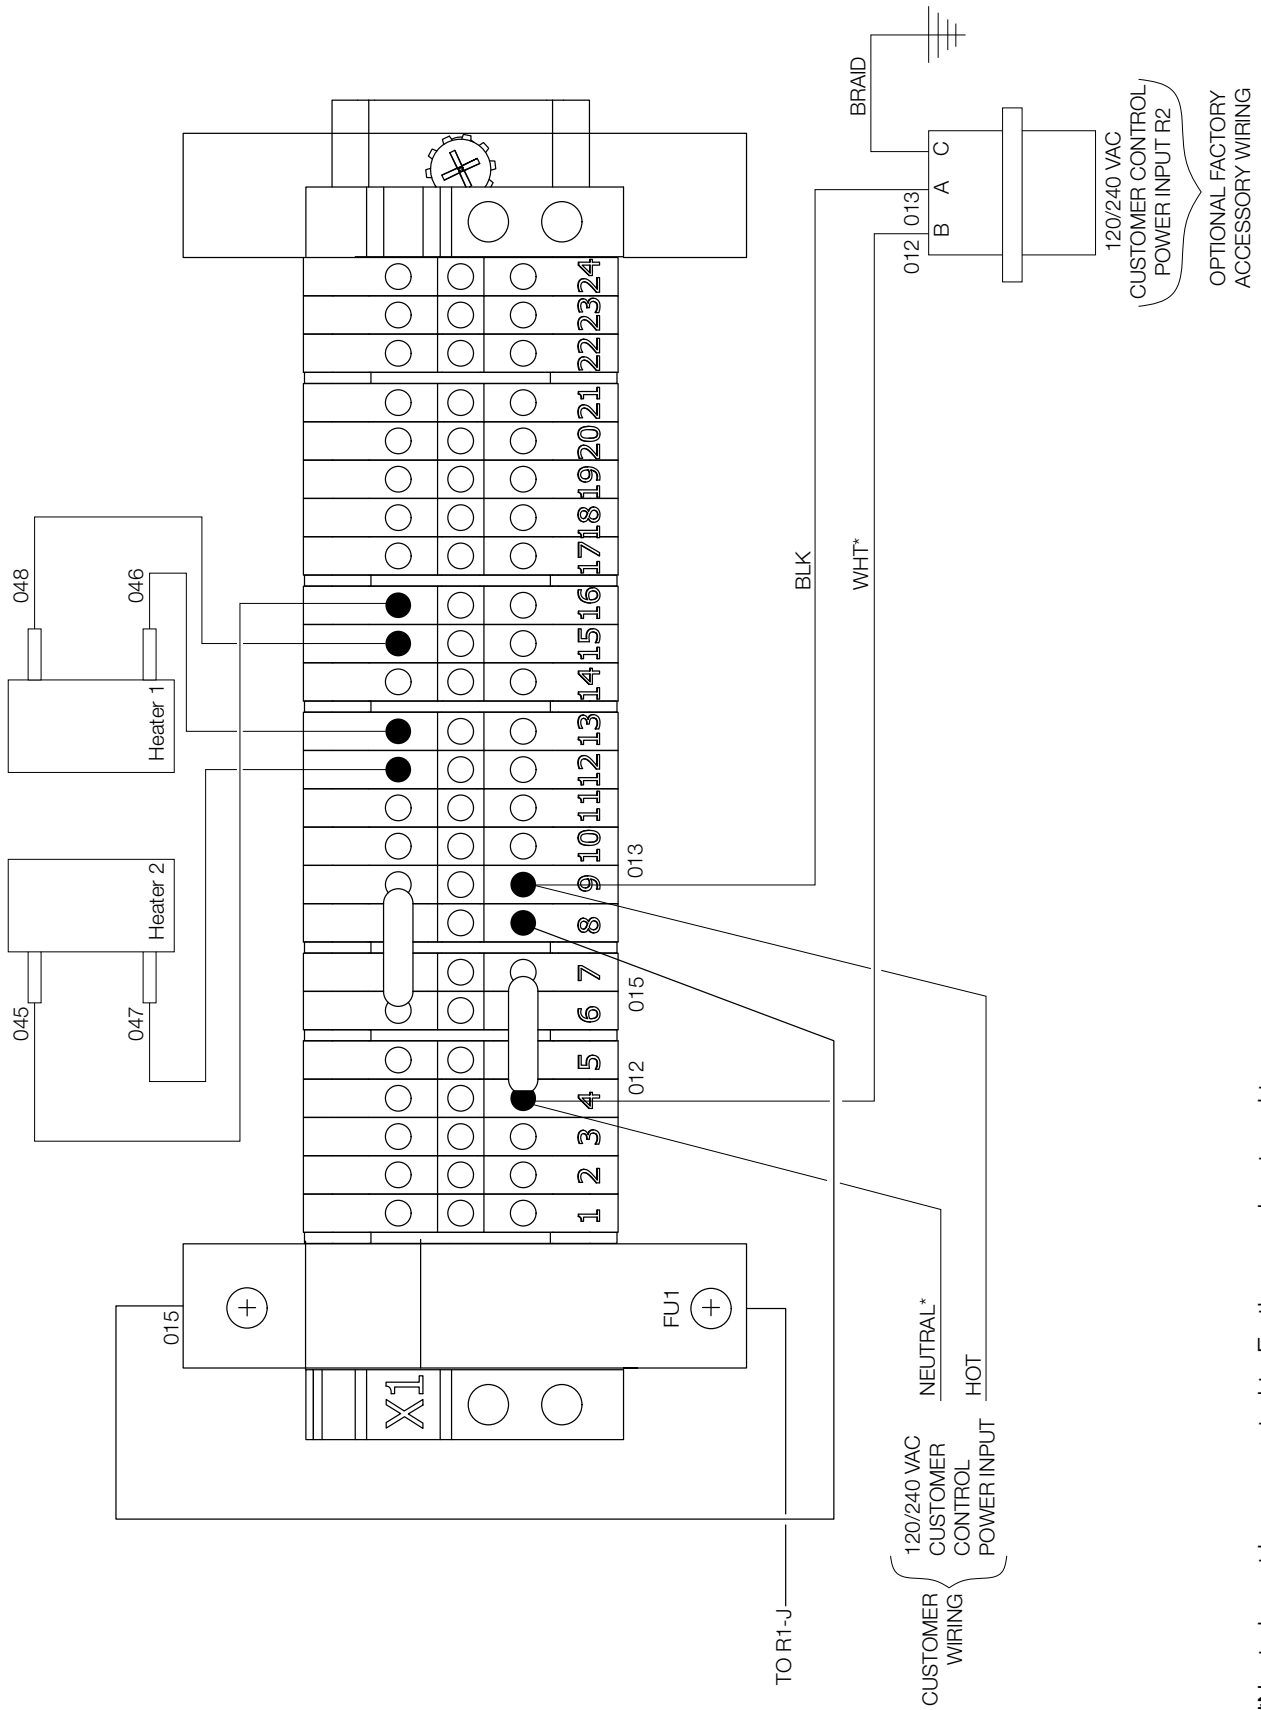

Figure 23.
- Follow the grounding requirements shown on the Voltage Sensing wire diagram appropriate for your three-wire application (Figure 23).